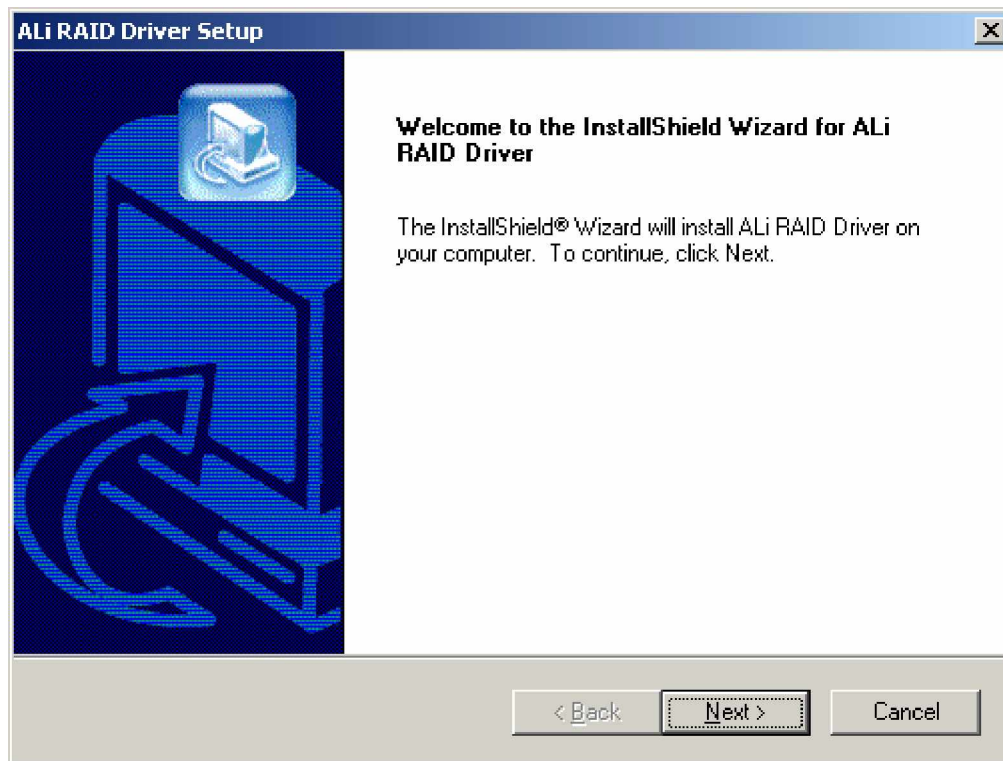

Figure 6-27: Install Wizard Welcome Screen
Step 4: Once initialized, the **Install Wizard** welcome screen appears (Figure 6-27).